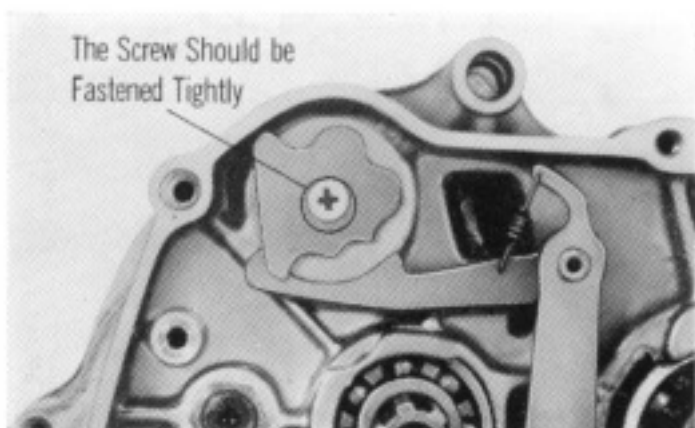

Fig. 53
2. Apply screw locking agent to the stopper plate fixing screw lest the screw should loosen (Fig. 53).